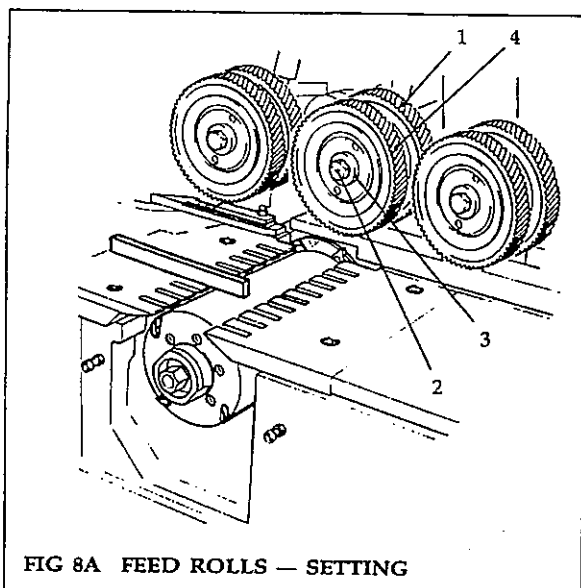
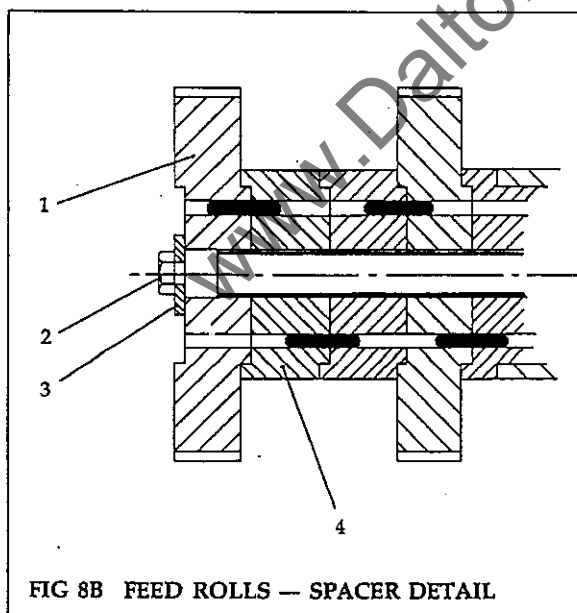

FIG 8A FEED ROLLS — SETTING
FIG 8B FEED ROLLS — SPACER DETAIL
### Set Feed Rolls (Fig 8A, Fig 8B)
- (1) Set the feed rolls (1) to suit width and thickness of timber, ie: width of rolls to be as width of timber;
**NOTE** To achieve maximum traction on wide timber, it may be advisable to space rolls apart (Fig 8B), rather than having a solid bank of feed rolls.
- a. Slacken centre screw (2), using a 10mm hexagon spanner.
- b. Remove 'C' washer (3), add or remove rolls, or spacers (4), to suit width of stock (Fig 8B), ensuring that each roll drive pin engages with its mating part.
- c. Refit 'C' washer (3) and retighten centre screw (2).